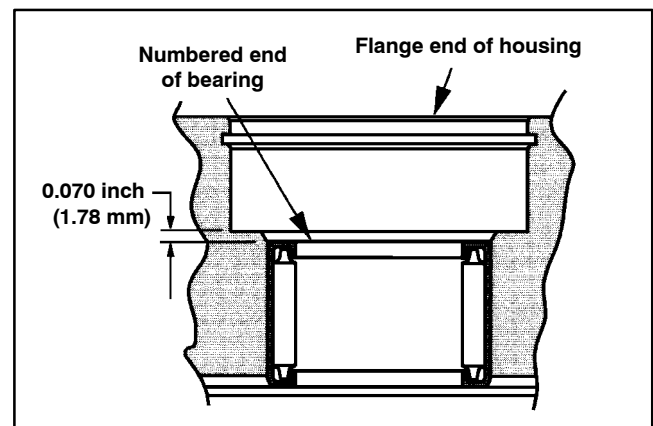
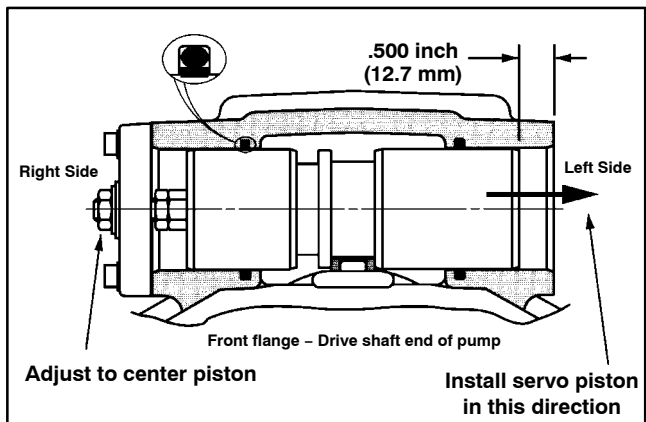

Figure 43
Figure 45
2. Check the bearing (39) (press fit) in pump housing (19). If needles remain in cage, move freely and setting at the dimension shown in Figure 43, bearing removal is not required.
2. If necessary, press new bearing into pump housing to dimension shown in Figure 43 with the numbered end of bearing outward.
3. Install the two new seal sub-assemblies (37) into the servo piston cavity of pump housing (19).
4. Screw the cover plate (10) onto the servo piston assembly (7). Install new cover plate gasket (33) in place on pump housing. Install servo piston assembly (7) and cover plate (10) into servo piston bore in right side of housing (Fig. 45). Retain cover plate with four washers (31) and socket head screws (5). Torque screws from **40 to 48 in-lb (4.5 to 5.4 N-m)**. To obtain neutral, centering the servo piston assembly is required. Measure in from the left side and set servo piston 0.500 in. (12.7 mm) from surface of housing servo bore as shown in Figure 45.